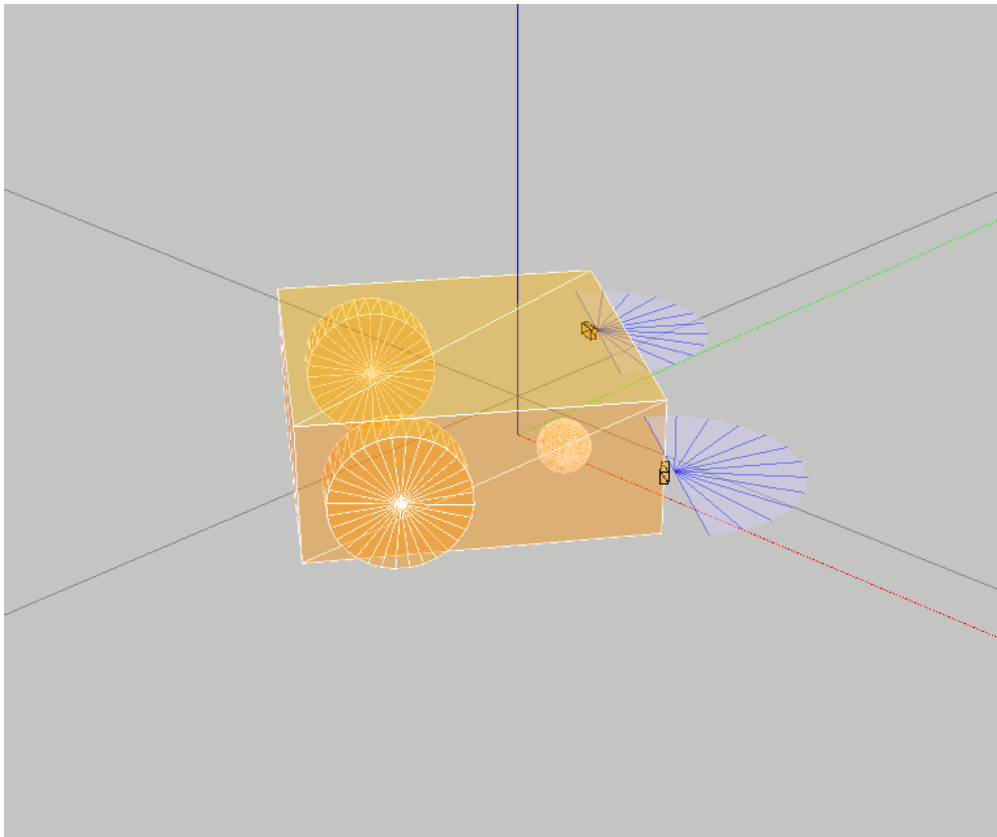

Figure 7: Thymio-like robot with two laser sensors running.
3. You can easily validate that your sensor is working once you have the plugin setup and publishing data. Launch Gazebo and make sure that you have visual confirmation that your plugin is running (see Fig. 7).